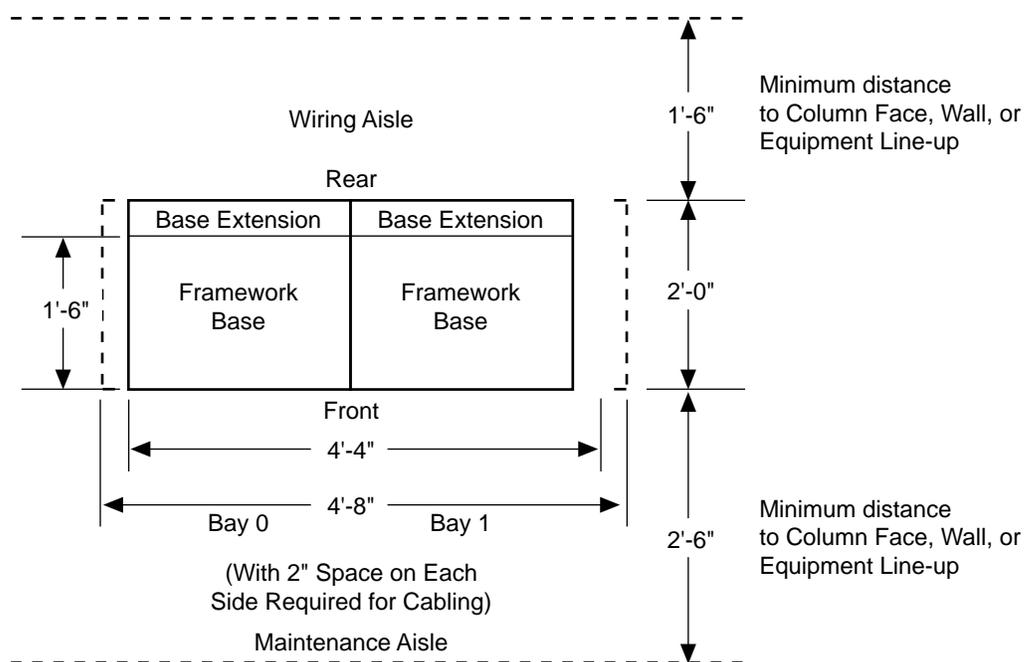
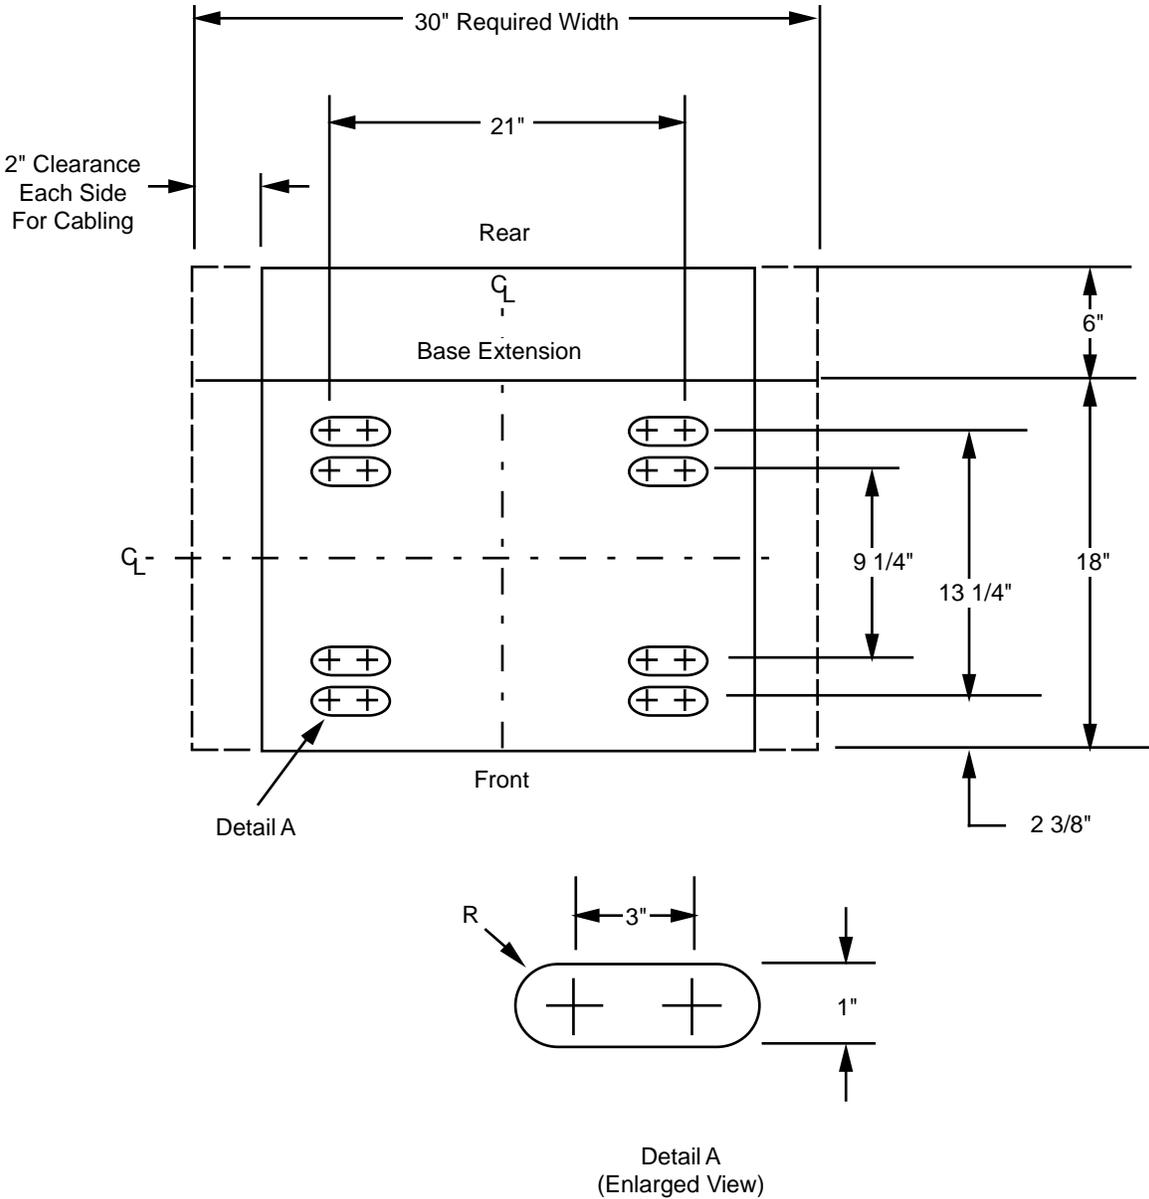

FIGURE 2-15. VDM-SAM504 Footprint for a Two-Bay Configuration
FIGURE 2-16. VDM-SAM504 Anchoring for a One-Bay Configuration
Figure 2-15 shows how to locate the mounting holes to fit the slot patterns of a one-bay configuration, and Figure 2-16 shows the same information for a two-bay configuration. Refer to ED1A210-20 for details regarding anchoring the framework(s) to a concrete floor.
1. Secure the framework to the floor following the guidelines described in ED1A210-20. Anchor the framework as shown in Figure 2-15.
1. Follow Steps 1–11 for installing a one-bay configuration (see preceding section) with one exception — refer to Figure 2-16 for base anchoring information.